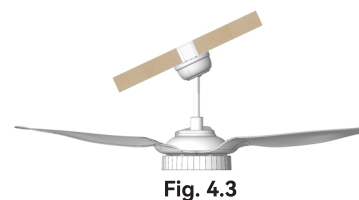

Fig. 4.3
- If you have an angled or vaulted ceiling (see Fig. 4.3)